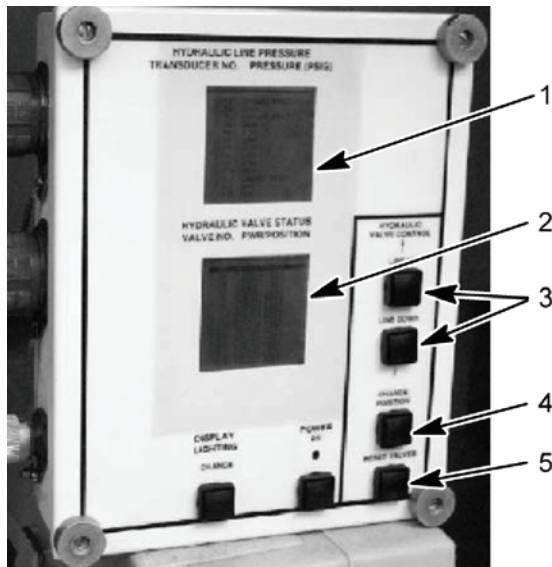

Figure 9. HDC Control Box
- Reset all HDC solenoid valves by selecting the RESET VALVES button (Figure 9, item 5) on the HDC control box.
- Disable ejector by manually closing the ejector inhibit ball valve V23 (Figure 10, item 1) on the DCV bank. Using LINE UP or LINE DOWN button (Figure 9, item 3), select V1 on the HDC display (Figure 9, item 2). Close V1 on the HDC display (Figure 9, item 2) by selecting the CHANGE POSITION button (Figure 9, item 4) on the HDC control box.
- Have assistant start engine, move the SPRUNG/UNSPRUNG lever to SPRUNG and move EJECTOR CONTROL lever to BACK. Read transducer T-3 hydraulic pressure on the HDC display (Figure 9, item 1).
- While holding the EJECTOR CONTROL lever to BACK, have assistant move the right-hand SUSPENSION CONTROL lever to RAISE. Read transducer T-3 hydraulic pressure on the HDC display (Figure 9, item 1).
- Enable ejector by manually opening the ejector inhibit ball valve V23 (Figure 10, item 1) on the DCV bank. Using LINE UP or LINE DOWN button (Figure 9, item 3), select V1 on the HDC display (Figure 9, item 2). Open V1 on the HDC display (Figure 9, item 2) by selecting the CHANGE POSITION button (Figure 9, item 4) on the HDC control box.